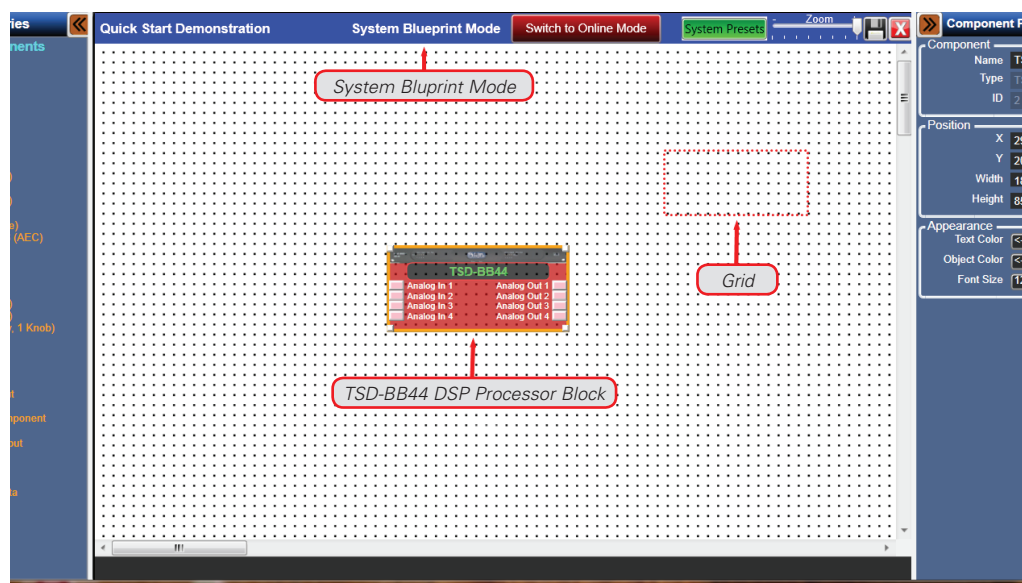

Figure 6
The Unity Test file will open in the BlueBridge Designer application as illustrated in Figure 6.
- An Atlas DSP Block representing the device will appear shaded on a grid background as shown in Figure 6.